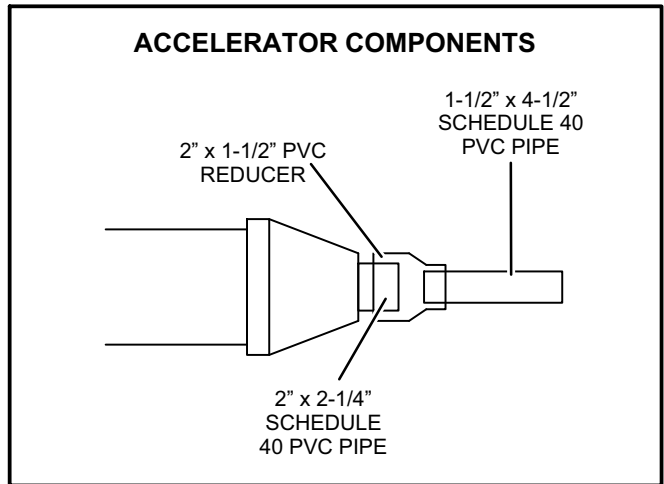

FIGURE 2
- 4 - When 2" concentric kit is used with -045 and -070 furnaces, it is necessary to use the provided accelerator on the end of the termination. See figure 2 for accelerator component identification.